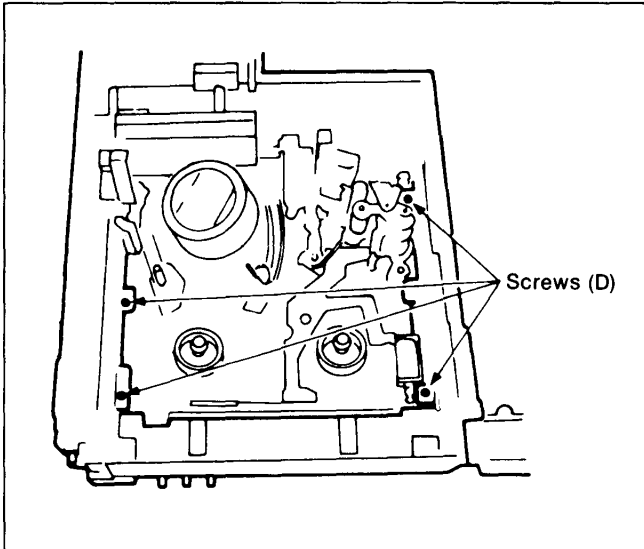

Figure M66
5. Tighten the 4 screws (D) as shown in Figure M66.